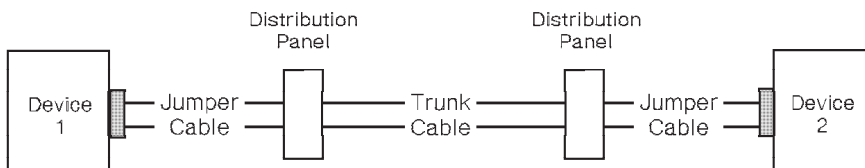

Figure 2-3. Link Configuration 3 Consisting of 2 Jumper Cables, a Trunk Cable, and 1 or 2 Distribution Panels
- Two jumper cables, each connected to a distribution panel, and a trunk cable (Figure 2-3).